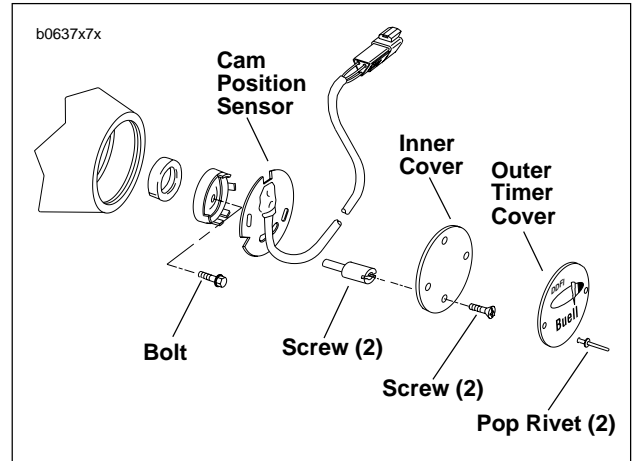

Figure 1-45. Timing Cover
1. See Figure 1-45. Locate outer timer cover at bottom of gearcase cover on right side of vehicle.